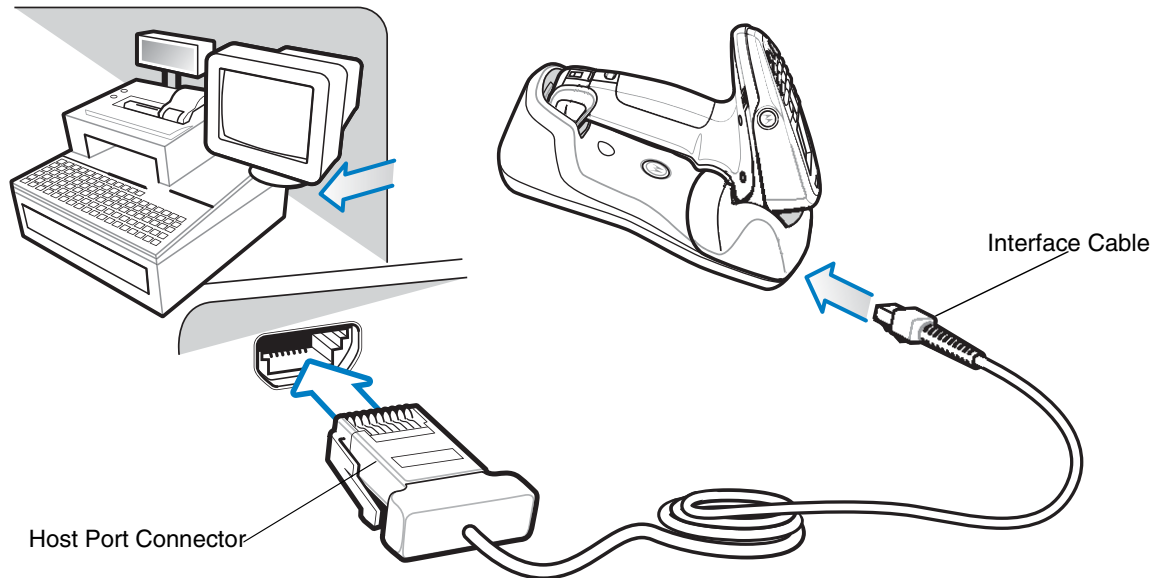

Figure 10-1 IBM Direct Connection
- ✓ **NOTE** Interface cables vary depending on configuration. The connectors illustrated in Figure 10-1 are examples only. The connectors may be different than those illustrated, but the steps to connect the device are the same.